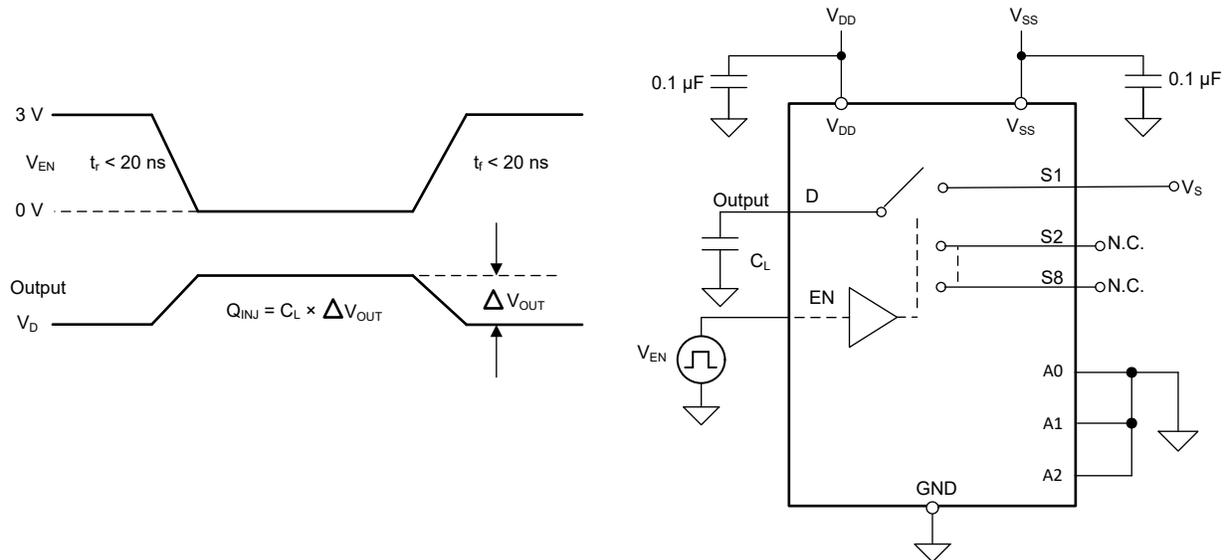

Figure 8-9. Charge-Injection Measurement Setup
The TMUX6208 and TMUX6209 have a transmission-gate topology. Any mismatch in capacitance between the NMOS and PMOS transistors results in a charge injected into the drain or source during the falling or rising edge of the gate signal. The amount of charge injected into the source or drain of the device is known as charge injection, and is denoted by the symbol Q_{INJ} . Figure 8-9 shows the setup used to measure charge injection from source (Sx) to drain (D).